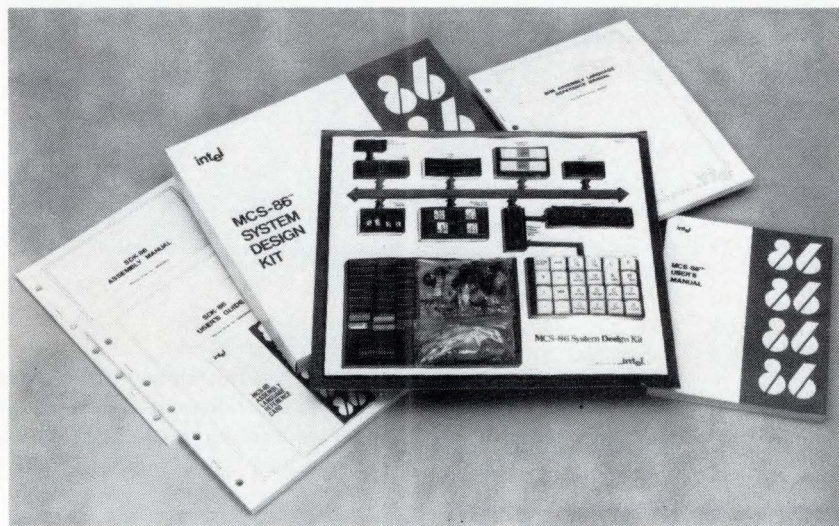

Fig 2 For greater speed/lower memory usage, a new micro may be needed, such as the Z8000, 68000 or 8086. This system design kit is based on the Intel 8086.
one of the new generation of CPUs (such as the Intel 8086 (Fig 2)) may be necessary particularly if the application involves many arithmetic calculations (Ref 3), (2) a microprogrammed emulation of the CPU in the existing system; such emulations are most often available for the 8080 or 6800 processors, but are quite expensive and time consuming to use; (3) two or more CPUs working in parallel; and/or (4) a new algorithm, particularly if the task involves sorting, searching or mathematics (Refs 4-6). When major surgery is required, cosmetic changes will not do.